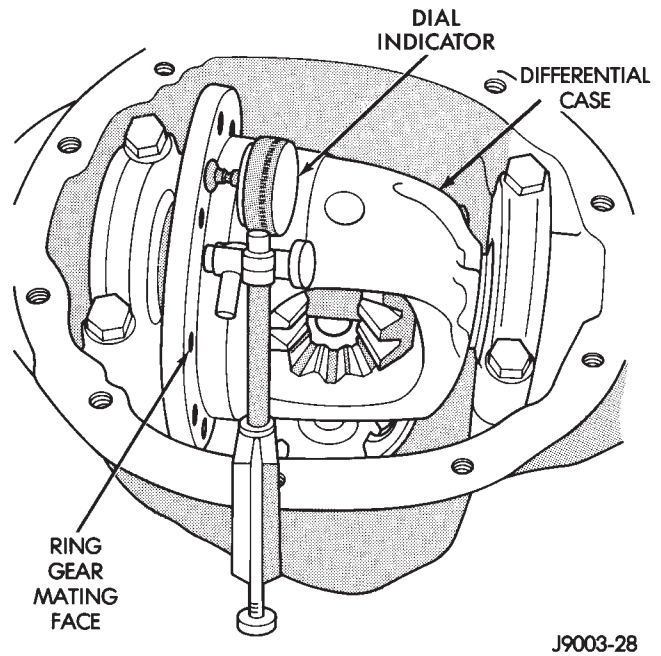

Fig. 35 Shim Measurement
(5) Install the marked bearing caps in their correct positions. Install and snug the bolts.
(6) Attach a dial indicator to the housing. Position the indicator plunger so that it contacts the ring gear mating surface (Fig. 35).
(7) Pry the differential case to one side and zero the dial indicator pointer.
(8) Pry the differential case to the opposite side and record indicator reading. Reading is additional shim thickness needed for zero end play. For example, if reading was 0.008 inch (0.20 mm), an additional 0.004-inch (0.10-mm) thick shim will be needed at each side zero end play.
(9) Install zero end-play shims on each side of case. **The differential bearings must be preloaded to compensate for heat and load during operation.**
(10) Add an additional 0.004-inch (0.1-mm) to each outboard shim/spacer for bearing preload.